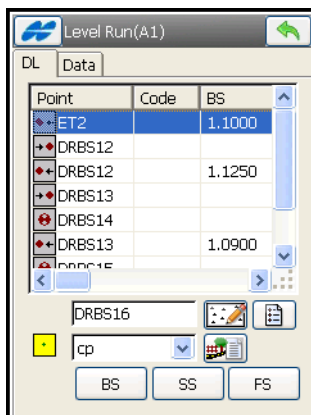

Figure 12-3. DL Level Run
- **Next** – opens the screen to make leveling measurements (see Figure 12-3 on page 12-3).
The *DL* tab on the *Level Run <run name>* screen (Figure 12-3) displays all leveling data in progress and contains tools to conduct leveling.